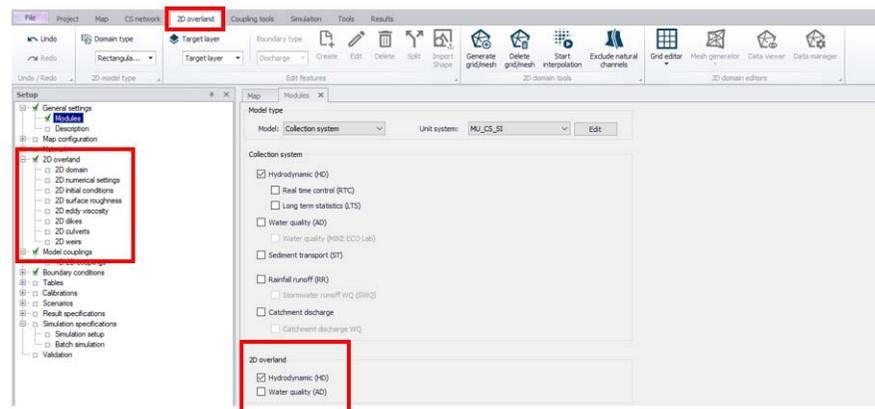

Figure 3.1 Activate the Hydrodynamic (HD) 2D Overland module to access editors for building 2D Overland models in the MIKE URBAN+ Setup Tree View.
Activating the Hydrodynamic (HD) module provides access to 2D Overland model editors in the Setup tree view (Figure 3.1).